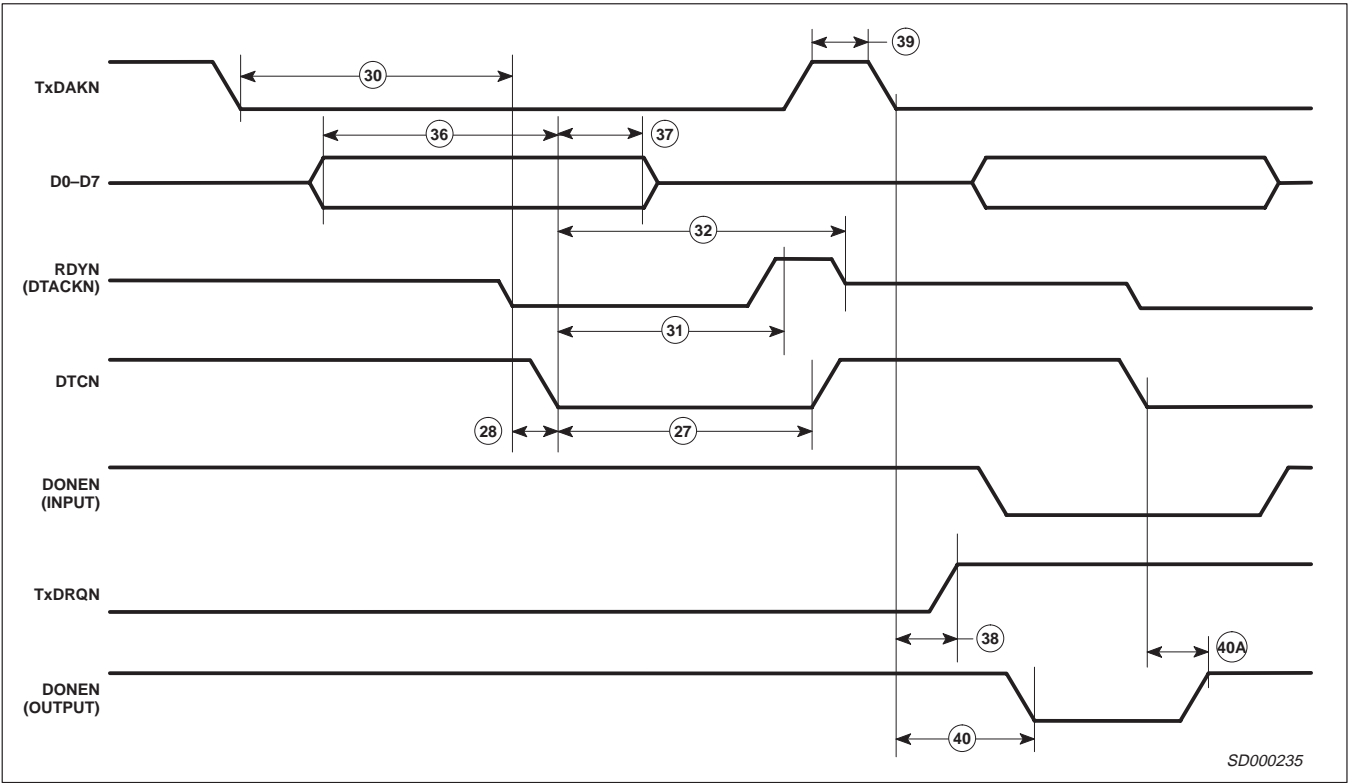

Figure 14. DMA Transmit Write Timing—Single Address DMA Mode
- Execution of the valid command (after it is latched) requires three falling edges of X1 (see Figure 14).